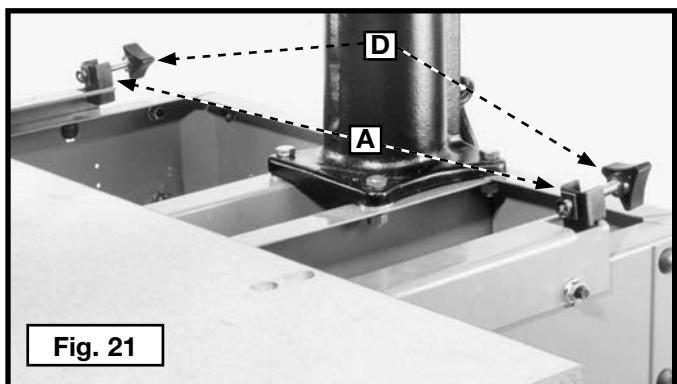

Fig. 21
2. Turn the adjusting screw (D) Fig. 21 counter-clockwise, so that the knobs (A) are in the rear position.